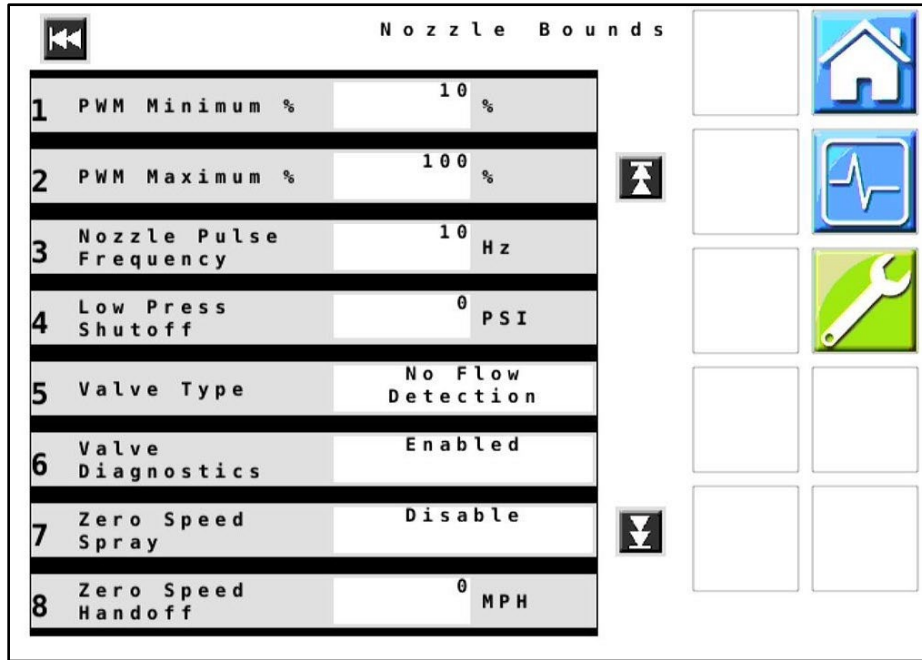

Figure 8 — Nozzle Bounds
15. **Figure 8:** The settings for Nozzle Bounds are generally left at default settings. Refer to the Operator's Manual for setting descriptions prior to making changes.